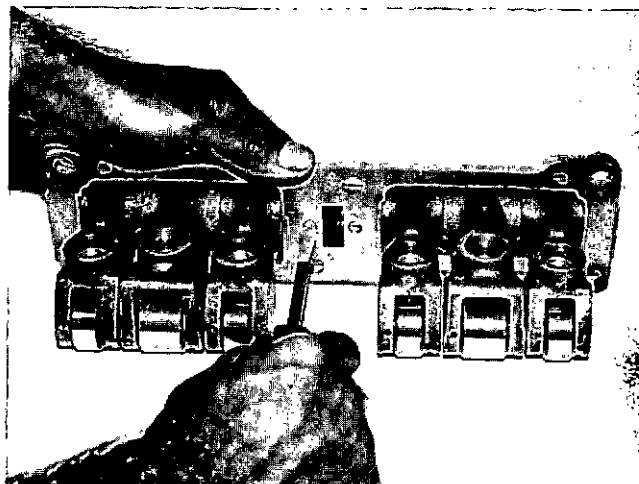

Fig. 4-4 (N10401). Remove The Lockscrew From The Shaft.
2. Remove the lockscrews that hold the shafts in the housing, Fig. 4-4.